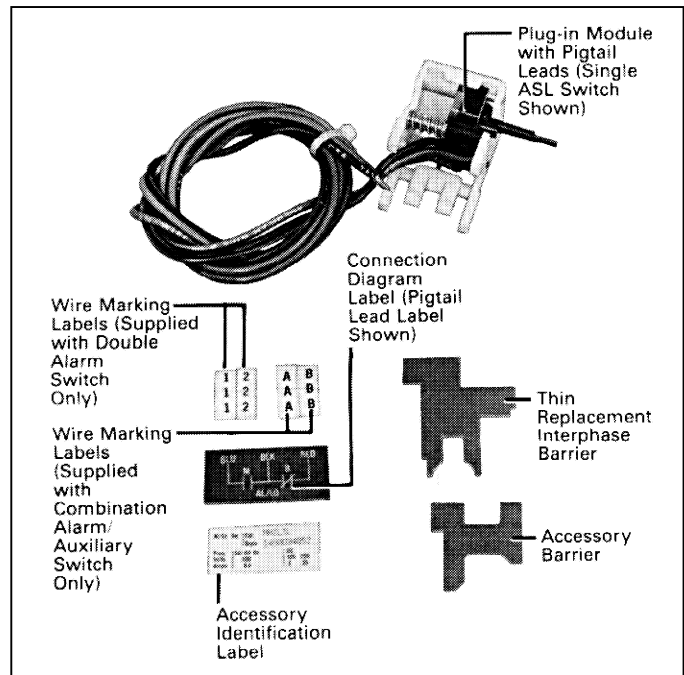

Fig. 2-1. Alarm (Signal)/Lockout Switch Kit
The ASL switch and accessory combination, as shown in kit form in Fig. 2-1, can be installed in the left or right accessory mounting cavity of a 3-pole HMCP. An ASL switch or accessory combination must be installed in a HMCP before the HMCP is mounted in an electrical system. Install the ASL switch or accessory combination, as follows:
- c. For double ASL switch with pigtail leads, attach wire marking labels to the bundle of three leads for each switch (Fig. 2-1).
- c. Attach wire marking labels ('A' for auxiliary switch, 'B' for ASL switch) to the bundle of three leads for each switch (Fig. 2-1).